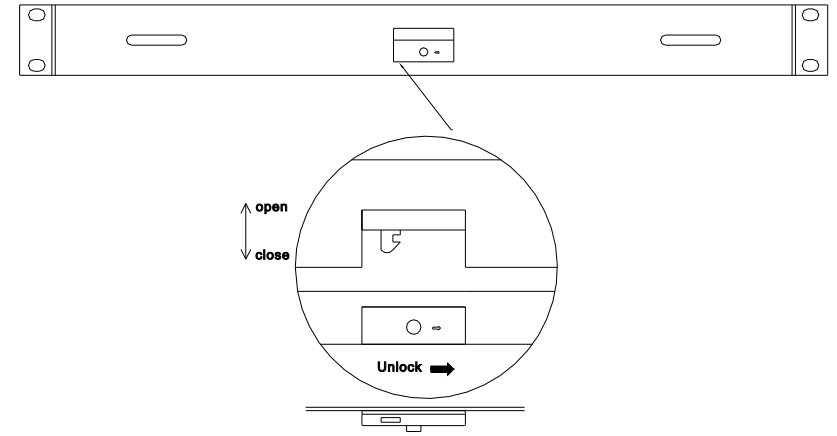

Fig.7
- \* Release the front panel locker;(see fig.7)